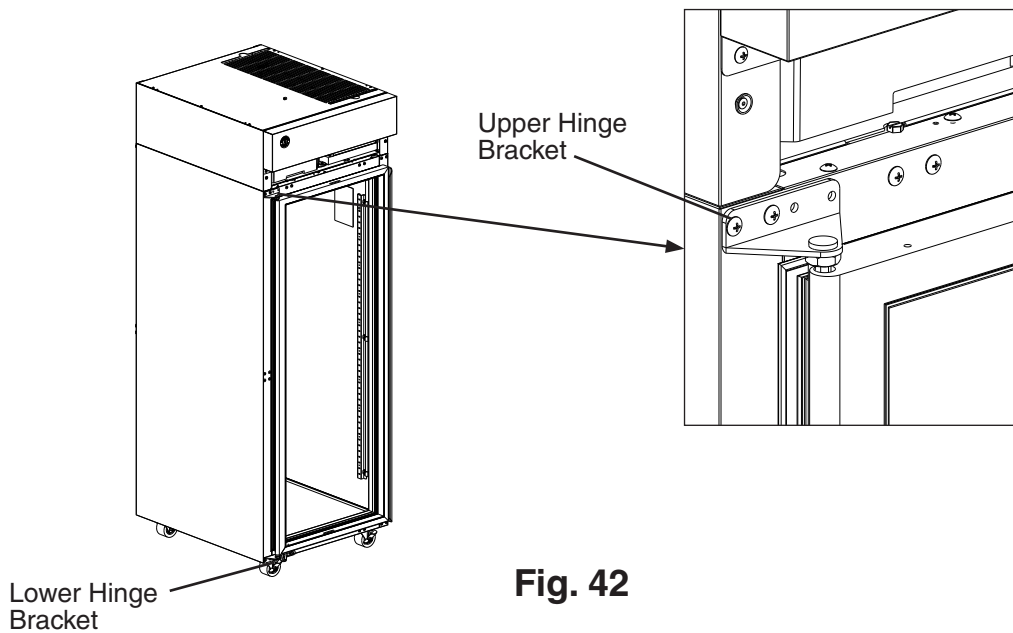

Fig. 42
17) Place the door on the lower hinge bracket in the closed position, then secure the upper hinge bracket to the cabinet. See Fig. 42.